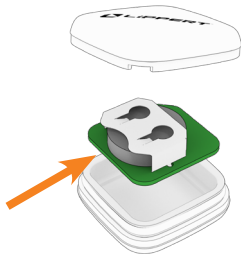

Fig.21
5. Install the new battery (Fig.21).